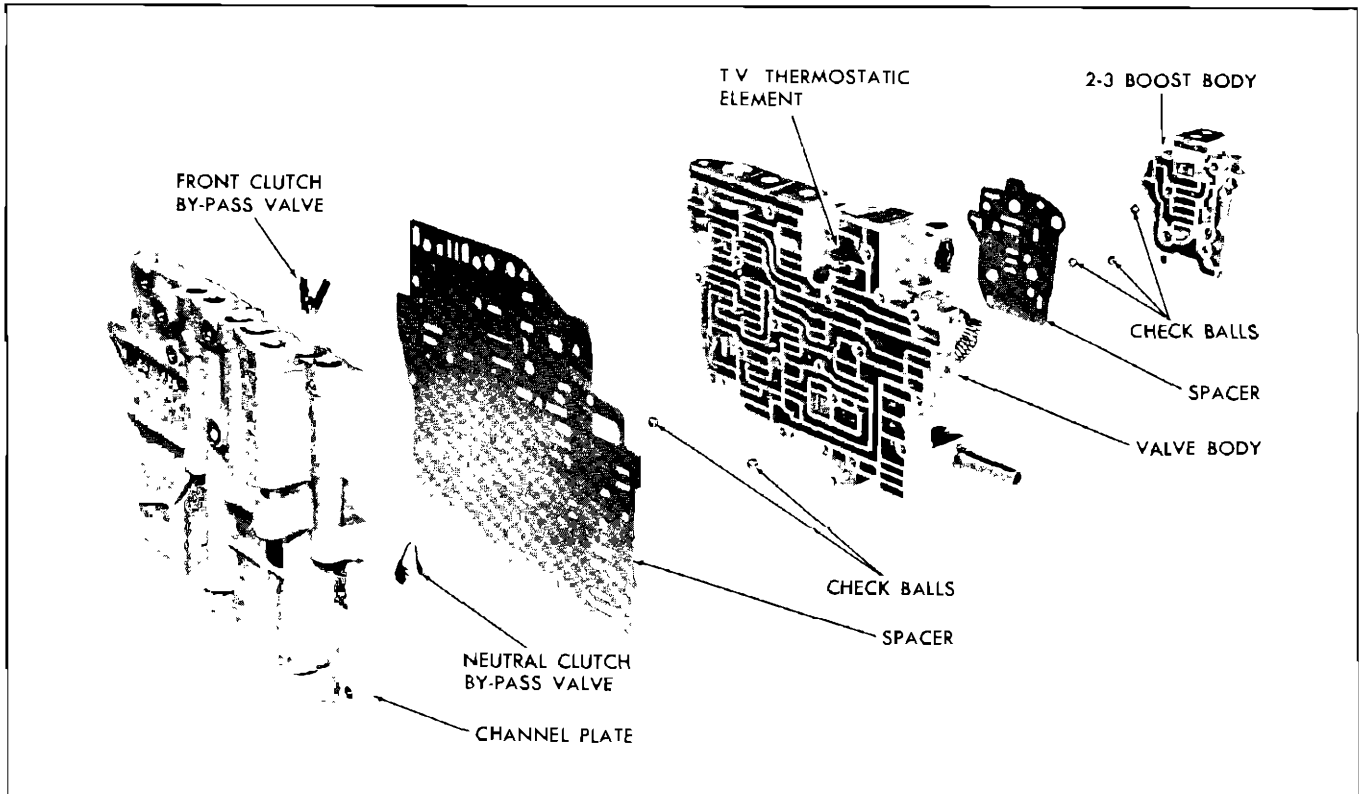

Fig. 100 Control Valve Assembly
The following inspection procedure is to be used for the compensator valve body, the 2-3 boost body, and the control valve body (Fig. 100).
1. Remove the 2-3 boost body assembly by removing 4 attaching screws. (One screw is located on channel plate side of body.) The 2-3 boost body contains 3 loose check balls and care should be exercised to prevent their loss (Fig. 100).
1. Remove channel plate from valve body assembly by removing two attaching screws from the valve body side and thirteen attaching screws from the channel plate side (Fig. 100).